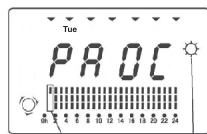

Fig. 15
- Operation in Comfort-2 mode on Tuesday from 0:00 to 01:00 hours in the morning (fig. 15)